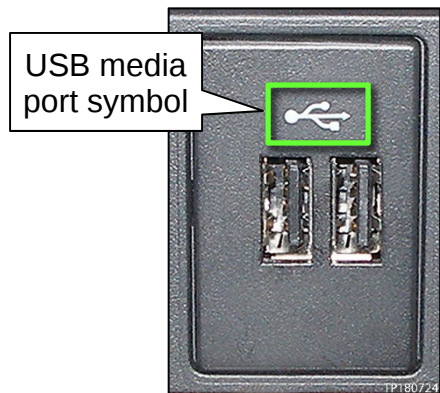

Figure 8
16. Insert the USB drive with infotainment update-software into the vehicle's USB media port (see Figure 8).